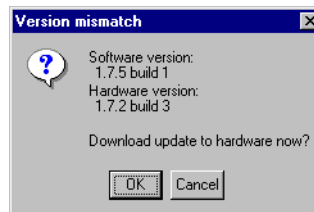

Figure 1-6. Version Mismatch Dialog Box
After you install or update the FlashPro software, a Version Mismatch dialog box may appear, as shown in Figure 1-6, so you can download an update to your FlashPro hardware.
1. **Click OK as shown in Figure 1-6.**